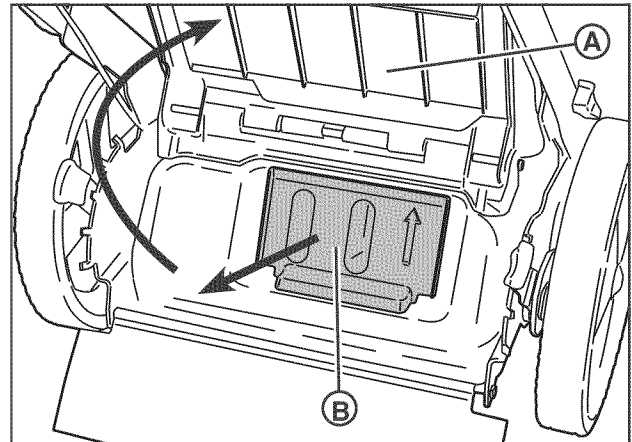

Figure 8: Removing the mulching plug
1. To mount the grass bag on the mower, raise the rear door (A, Figure 8). Remove the mulching plug.